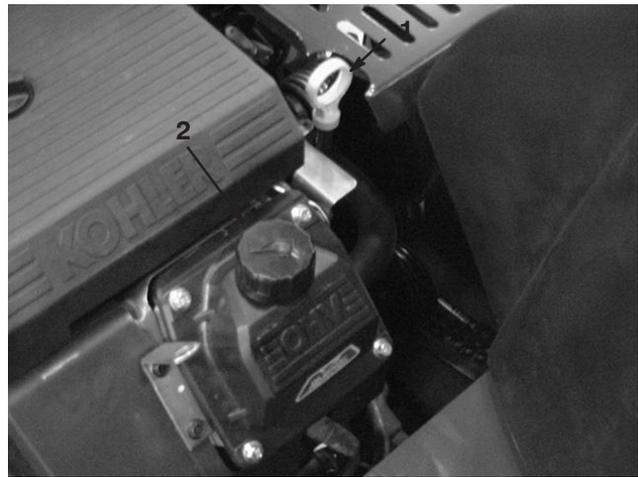

Figure 44
3. Clean around the oil dipstick (Fig. 44) so dirt cannot fall into the filler hole and damage the engine.
- Slowly pour approximately 80% of the specified oil into the filler cap (Fig. 44). Refer to Servicing the Engine Oil, page 34.